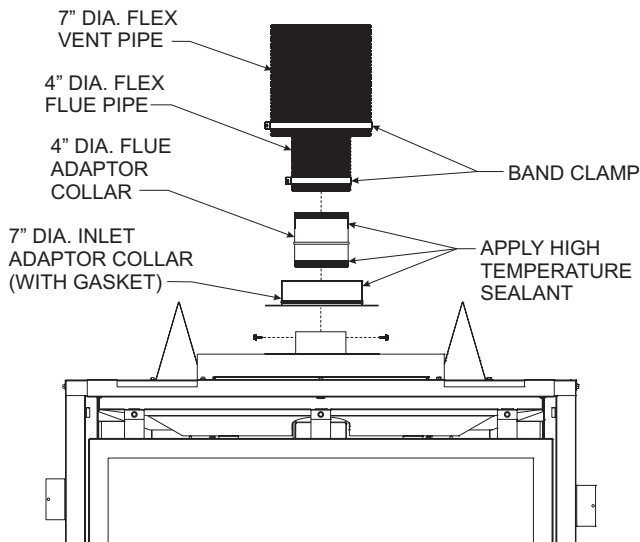

Figure 34
17. To attach the vent connections at the fireplace, be sure the 7" diameter adapter collar has been installed per step 3. Apply a bead of silicone sealant to the 4" diameter flex connector, then slide the flex pipe adapter collar into the fireplace flue collar and secure by installing a minimum of two (2) screws through the flue collar and into the adapter. **See Figure 34.**
18. Apply sealant to the 7" diameter adapter collar, slide outer flex vent over the collar, then secure with a 7" diameter band clamp. **See Figure 34.**